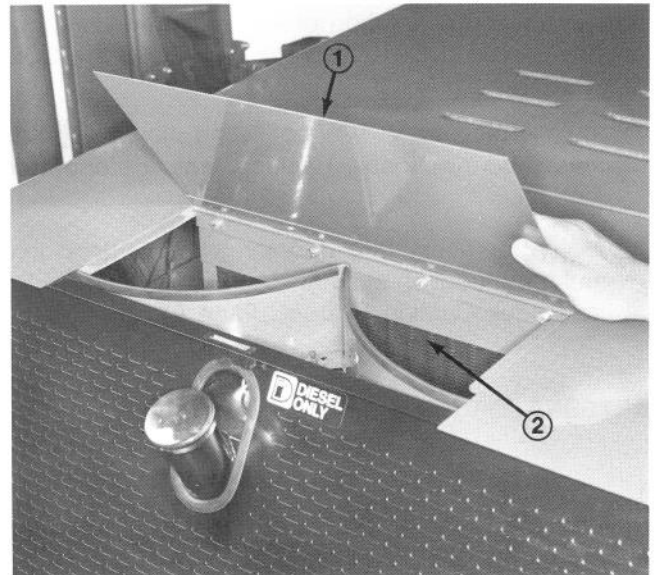

Figure 38
A. With engine turned off, raise radiator clean-out cover and remove debris (Fig. 38).